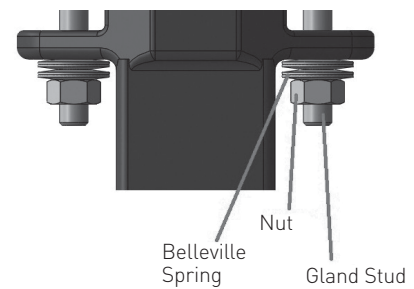

Figure 8 - Installing the Packing Set
- Install the anti-extrusion packing ring (9), packing set (10), second anti-extrusion ring (9), shaft retention ring (11), bellville washers (15) and packing gland (12) into the upper journal of the valve body (1). (See Figure 8)
- Keeping the disc assembly (2 - 7) in the closed position, tighten the packing nuts (16). Nuts have been correctly tightened when the packing gland plate (13) is flush with the valve body (1) top plate. Refer to the below table for bolt torque.